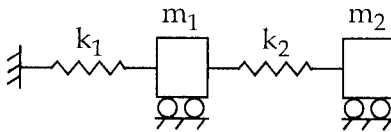

Fig. 3
6. (a) Explain Dunkerley's method of determining 6+8 fundamental frequency. Apply this method for the system shown in fig. 3 for finding fundamental frequency.